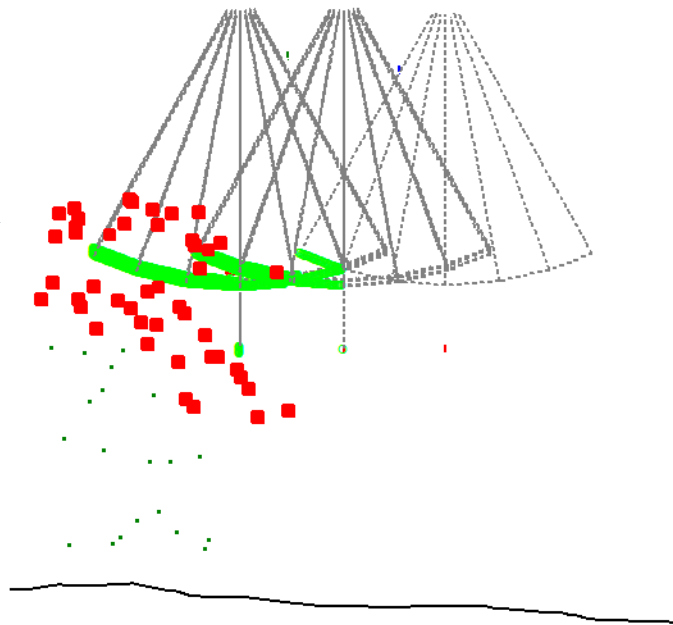
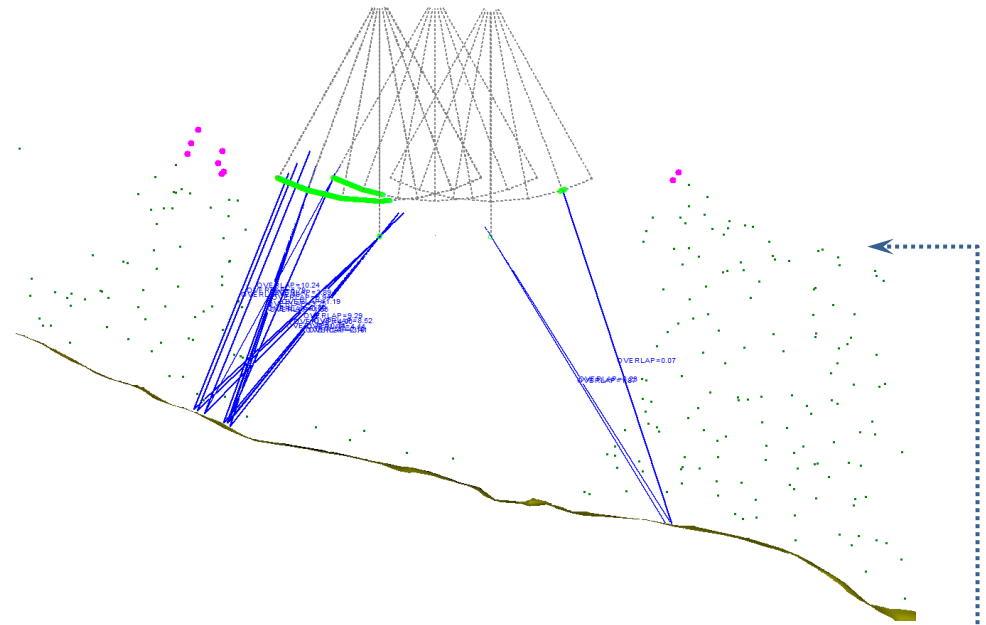

Figure 16: Grow-in violations in cross section view
Figure 17: Falling Tree violations in cross section
- *For falling tree violations draw line from root ball pivot point to top of tipped tree.* These are the blue lines visible in Figure 17.
- *Sag line markers:* Includes markers to more clearly indicate the wire sag and swing for all the weather conditions selected in **Criteria/ Survey Point Clearances and Danger Tree Locator** table. Represented as gray conductor movement envelope indicated on Figure 16 & Figure 17.
- *Point on wire markers:* Will add bright green points on the wire positions that are checked. Can be done for violations only, or for all points checked. See Figure 16 & Figure 17.
Grow-in violations (Figure 16) and Falling tree violations (Figure 17) in **cross section view** with wire displayed for the full conductor movement envelope
To obtain the view in Figure 16:
To obtain the view in Figure 17: